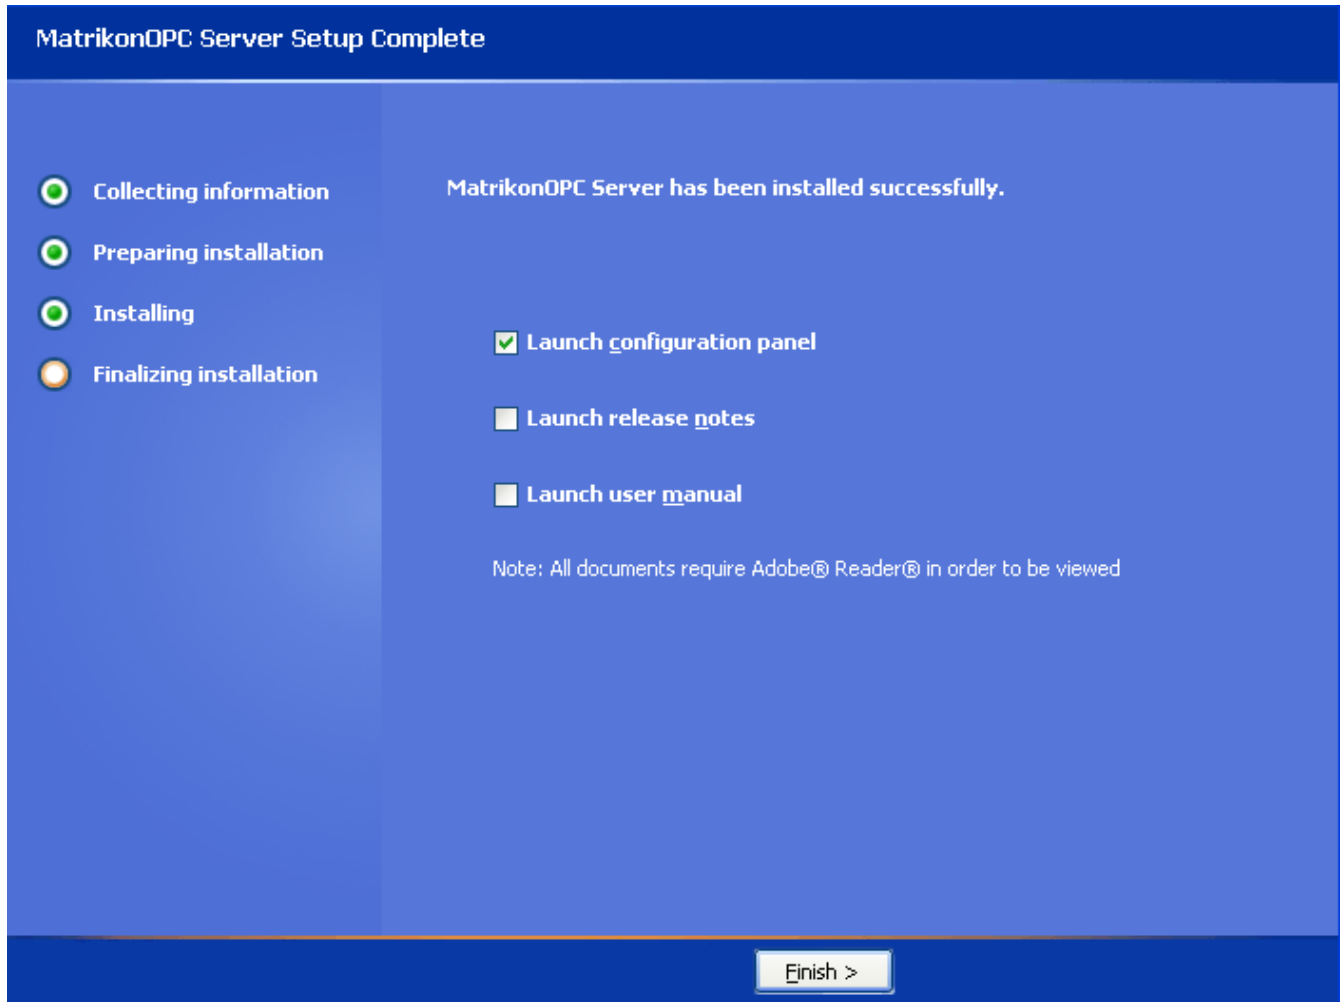

Figure 77 - MatrikonOPC Server Setup Complete Screen
20. When the installation has finished, the **MatrikonOPC Server for Mitsubishi PLCs Setup Complete** screen (Figure 77) appears stating that the MatrikonOPC server has been successfully installed.